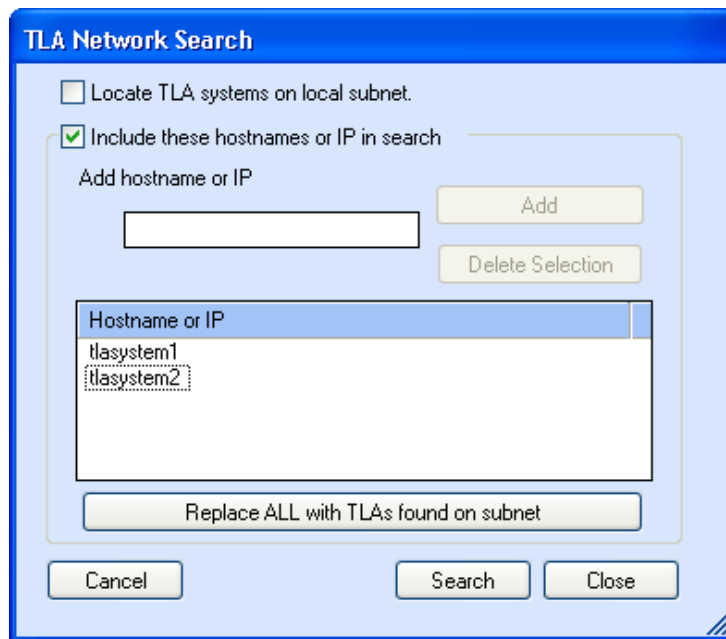

Figure 34: TLA Network Search dialog box
1. From the TLA Connection Dialog box, click  (Search icon) to open the TLA Search dialog box. (See Figure 34.)